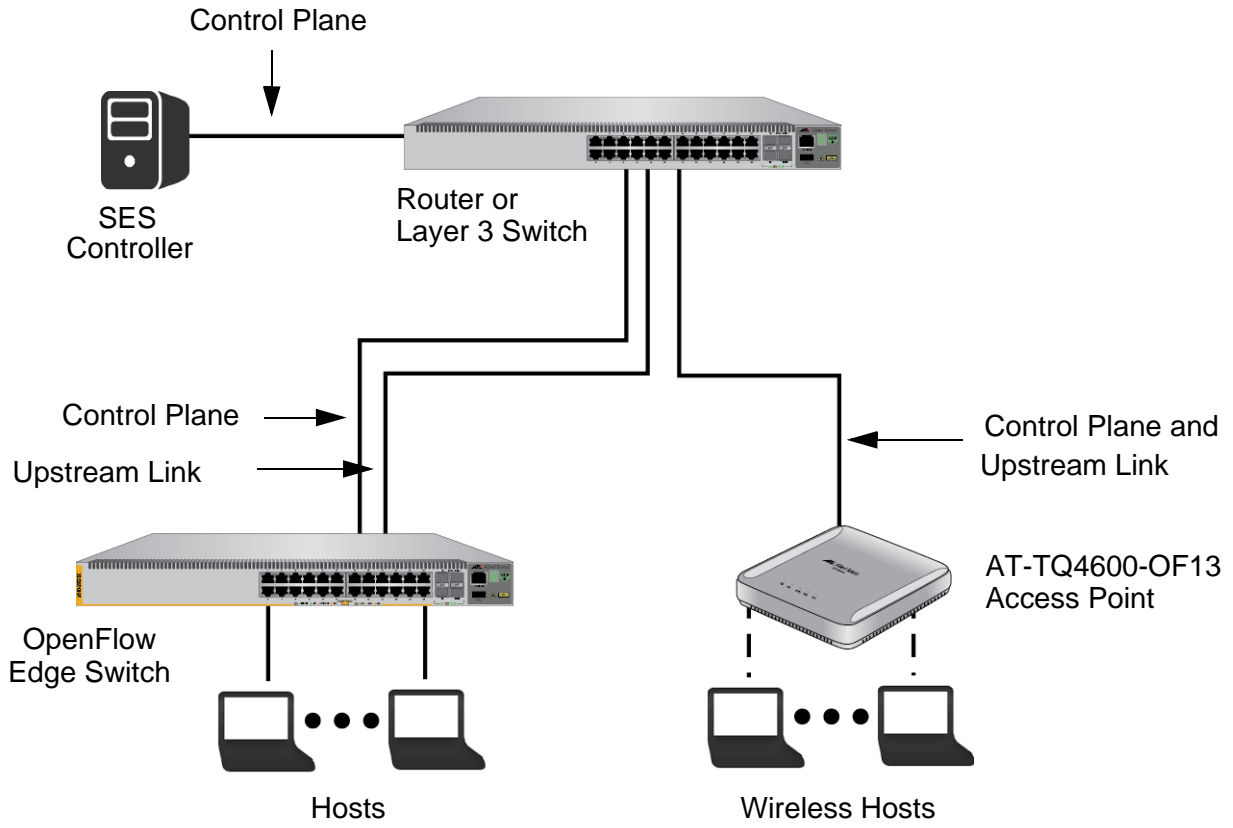

Figure 1. Hardware Topology
Figure 1 is an example of a network topology of the SDN solution, consisting of an SES controller, OpenFlow switch, and AT-TQ4600-OF13 wireless access point.
- ❑ SES Controller and OpenFlow protocol - This management program lets you manage the virtual LAN assignments of wireless hosts and define when and where hosts can access your network. As shown in Figure 1 on page 20, the controller resides on a network server and communicates with access points using the OpenFlow protocol, over a network pathway referred to as control plane. To manage wireless hosts, you add network, location, and schedule policies to the controller. Network policies define the VLAN assignments of wireless hosts, location policies define which OpenFlow switches and wireless access point that hosts can use to access your network, and schedule policies control the days and times when hosts can access networks. For more information, refer to the SES Controller and OpenFlow Protocol User Guide.